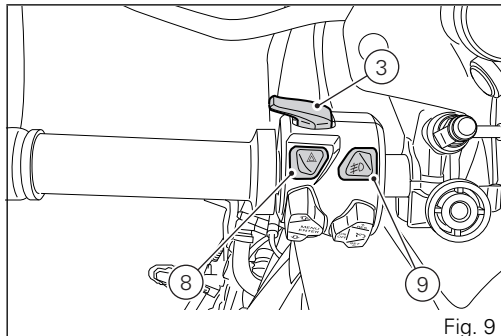

Fig. 9
3) ON/OFF AND LIGHT BUTTON (LOW BEAMS / HIGH BEAMS)(Fig. 9)